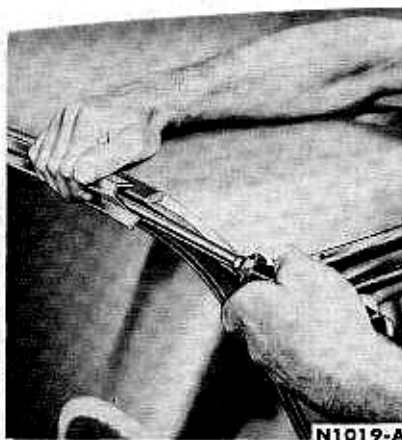

FIG. 2—Windshield Moulding Removal
4. Remove the windshield top outer mouldings, and remove the top moulding on a hardtop model by prying downward and outward with a long screwdriver (Fig. 2).